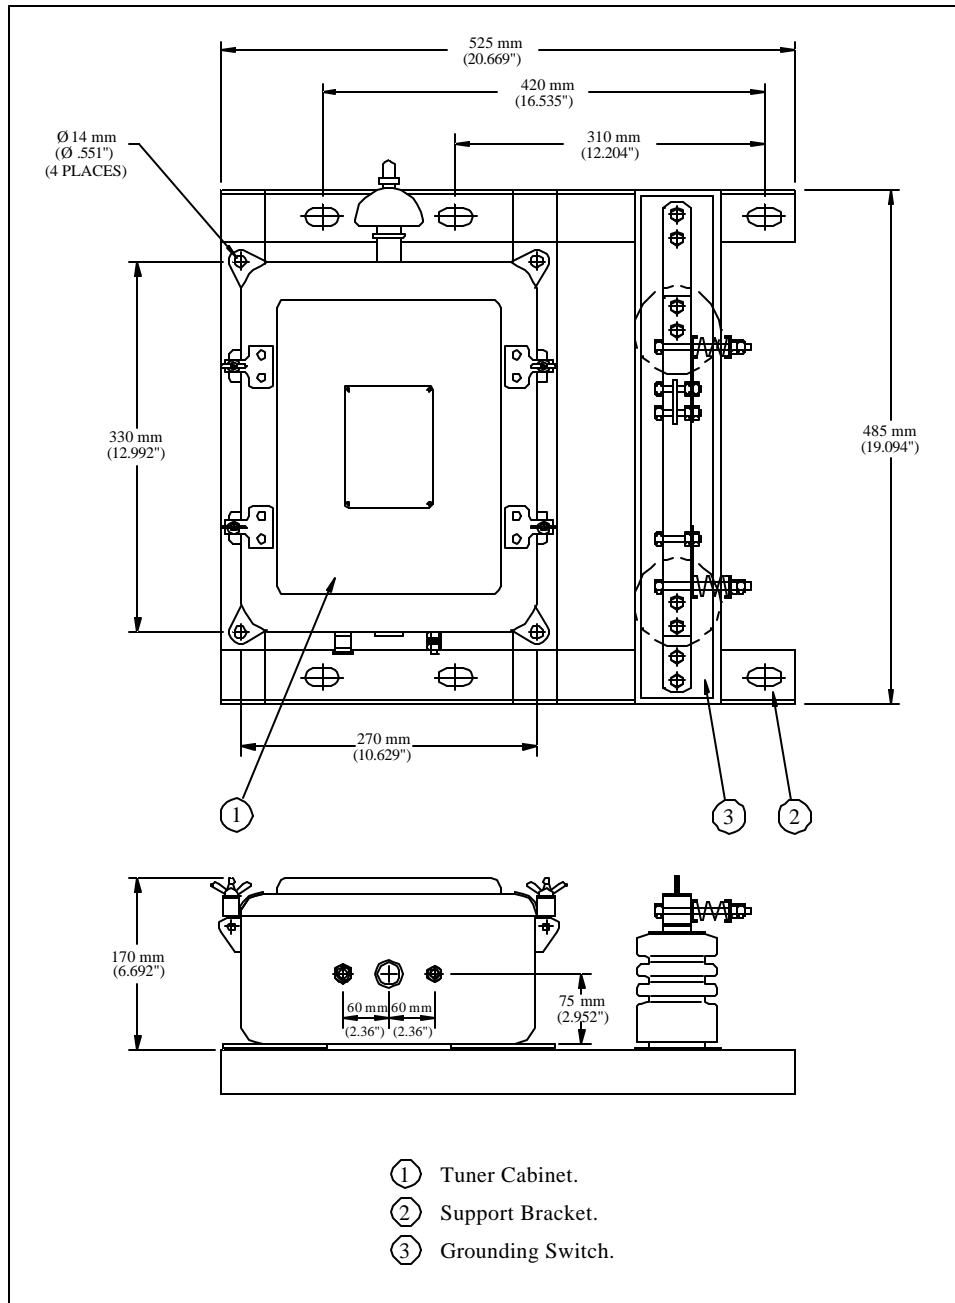

Figure 4. Assembly Drawing for 9510 Line Tuner and external Grounding Switch
- 7.1 For mounting dimensions, see figure 4.